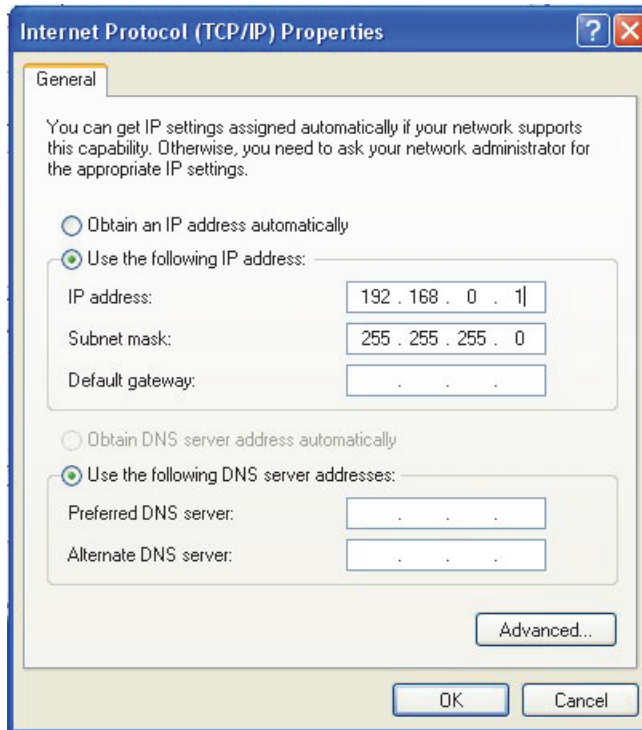

Figure 14-4 The Internet Protocol (TCP/IP) Properties dialog box (Windows XP)
The **Internet Protocol (TCP/IP) Properties** dialog box appears (see Figure 14-4 on page 286).
9. In the **IP address** text box, type an IP address (see Figure 14-4 on page 286).
10. In the **Subnet mask** text box, type a subnet mask (see Figure 14-4 on page 286).